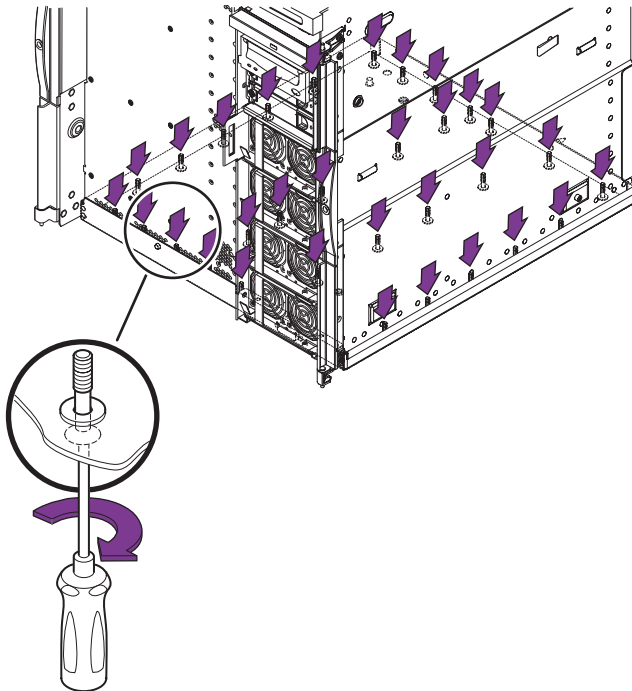

FIGURE 11-2 Removing the Baseplane Securing Screws
16. From beneath the system, loosen 30 of the 31 captive screws securing the baseplane to the chassis (FIGURE 11-2). Leave the screw at the center of the front secured.
- If the system does not have a plunger (release button), loosen the center front screw (FIGURE 11-2). Keep one hand under the baseplane while loosening the center front screw. Go to Step 18.